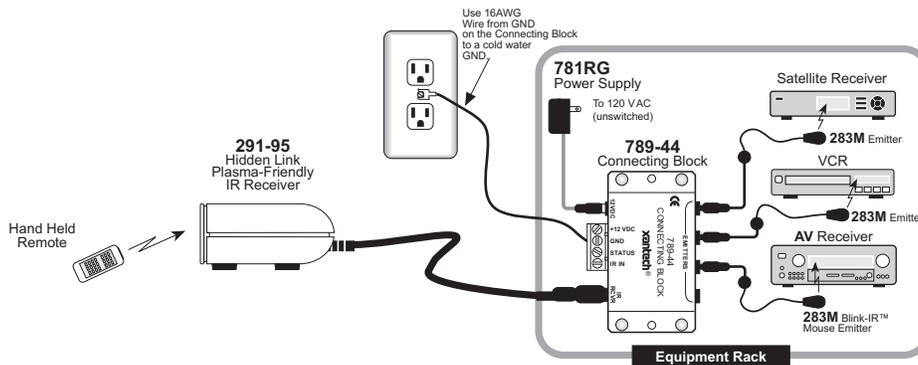

Figure 4 – Addition of System GND Wire for RF Interference Reduction
291-95 may also be used where the 7-foot lead is not long enough. In this case, simply use the CB12 Connecting Block as a “break-out” block. In **Figure 4**, a 291-95 is extended down to a 789-44 Connecting Block and combined with other Xantech IR Receivers.
4. Connect a GND wire from the Connecting block terminal to an electrical GND (See Figure 4 below).